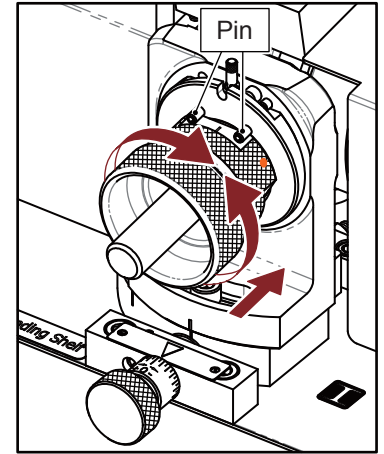

Fig. 5-18
1) 3 Flute Secondary Relief Grinding (I) (Fig. 5-18)